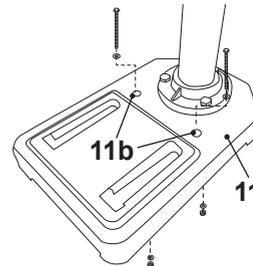

Fig. 7
1. Place the product on a level, horizontal bench or work table and fix the product on it with 2 mounting sets (not provided) (Fig. 7).